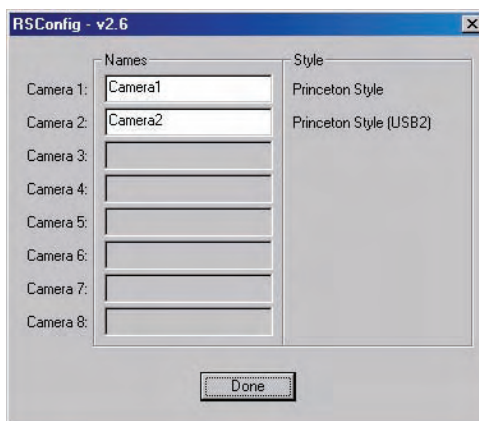

Figure 48. RSConfig dialog box: Two Camera Styles
4. Run RSConfig.exe (accessible from the **Windows|Start|Programs|PI Acton** menu). If the USB 2.0 camera is listed as Camera 2 (Princeton Style (USB2) in Figure 48), you will have to edit the PVCAM.INI file.